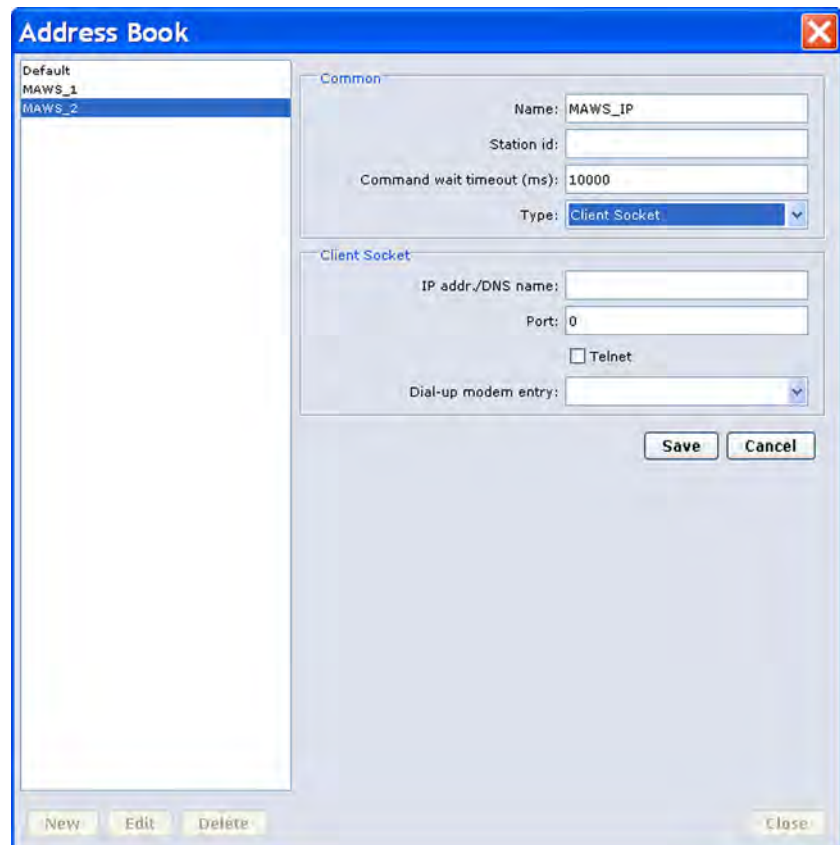

Figure 24 Creating TCP/IP Socket Connection Address Book Entry
- From the **Type** list, select **Client socket** or **Server socket** as the connection type. The fields for selecting the TCP/IP connection parameters, shown in Figure 24 on page 49, are displayed.